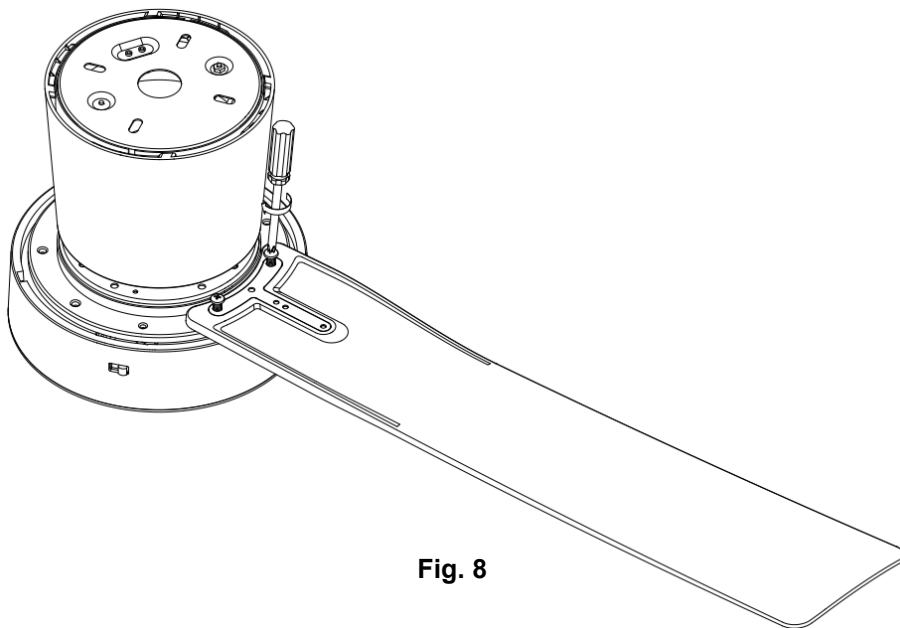

Fig. 8
1. Align the 2 holes on the blade with the 2 holes on the rotating member of the fan motor assembly, and use the 2 blade screws to secure the blade to the fan motor assembly. (Fig. 8)